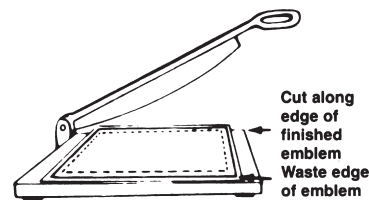

Figure 8
**D. Trim to size or cut to shape (Figure 8).** Prespacing of letters smaller than 3/4-inch (1.9cm) on filigree and other intricate designs with narrow stroke widths must be on a test and approval basis.